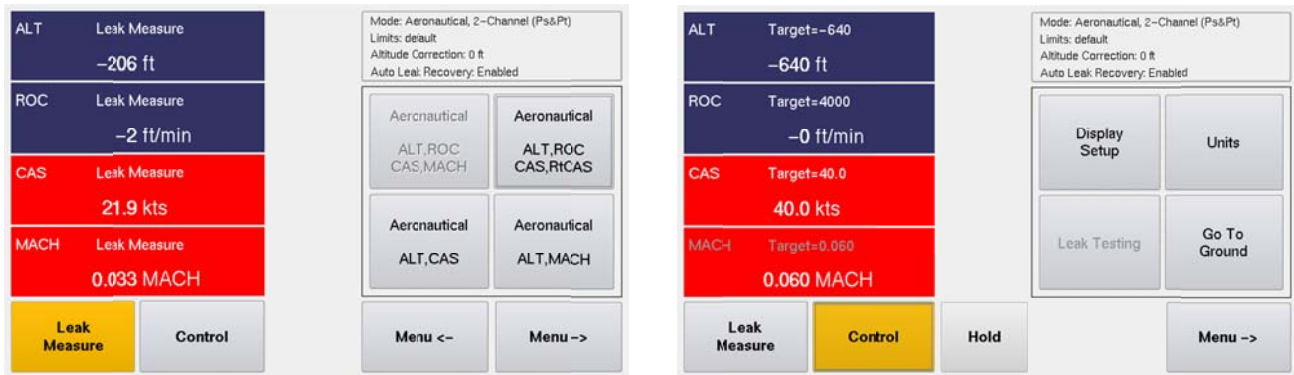

Figure 22 Display Setup Aeronautical Menu
- (1) The left-half of the screen is dedicated to provide all the measurement and control display screens.
- (2) The right-half of the screen is dedicated to provide all the menu displays and selections
- (3) The top right-quadrant is used to display Test Set operational status (Mode, Limits, Altitude Correction, Auto Leak Recovery) information.
- (4) The **Leak Measure** and **Control** mode softkey will have an amber background indicating which mode the test set is presently operating in (see Figure 22).
- (5) While in Leak Measure mode, “Target = “ is not displayed for any of the 4-parameters or 2-parameters displayed and therefore the touch zones for those parameters are not active.
- (6) While in Control mode, the 4-parameters or 2-parameters displayed will have a “Target =“ value displayed, when the Test Set transitions from Leak Measure to Control mode the Target value(s) are automatically set to the present value measured on the Ps & Pt ports. During the transition to Control mode, “Wait Resuming Control” is displayed and ALL touch screen zones are disabled except for the “Cancel” soft-key. When the message “Wait Resuming Control” disappears the pneumatic controller has achieved pressure equalization with the current pressure on the Ps & Pt ports. At this time the 4-parameter or 2-paramter touch zones are active and the user can enter Target values for each of the displayed parameters.
- (7) While in Control mode, the Leak Testing softkey is ghosted. Leak testing can only be accomplished while in Leak Measure mode.